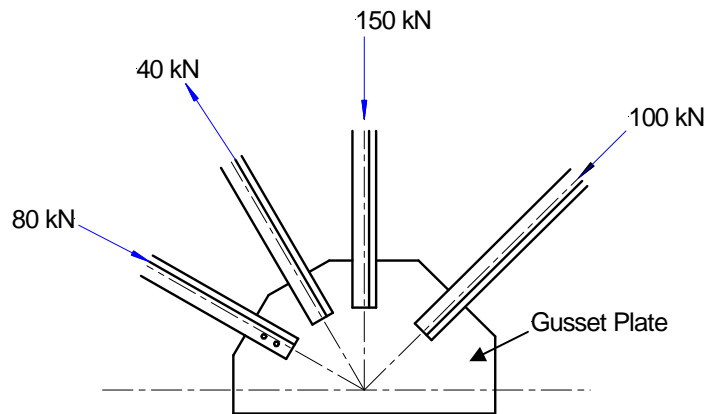

Figure 1.5.3
- (c) Calculate the resultant force on the gusset plate shown in *figure 1.5.3*